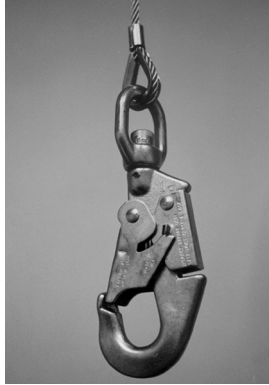

Figure 5c
- v) Be sure the rope crimps, swivel and snap-lock connectors are in good condition and functioning as intended. See Figure 5c.